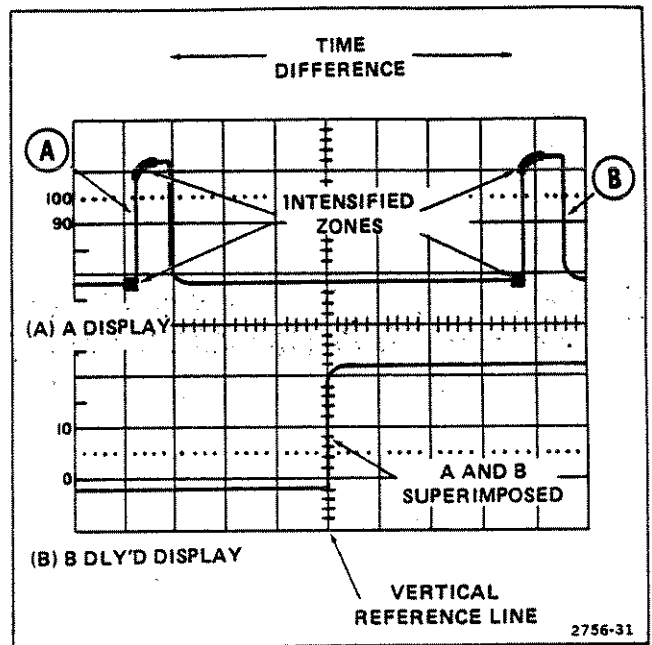

Figure 27. Time difference between repetitive pulses.
STARTS AFTER DELAY. For the most accurate measurement, set the B TIME/DIV switch to the fastest sweep that provides usable (visible) intensified zones. Use the DELAY TIME POSITION control to move the intensified zone to the first pulse (see Figure 27, A Sweep Display).
3. Observe the B Sweep display and adjust the DELAY TIME POSITION control to move the rising portion of the pulse to a vertical reference line (see Figure 27, B Sweep Display).
EXAMPLE: The first dial setting is 1.31 and the second dial setting is 8.81 with the A TIME/DIV switch set to $0.2 \mu\text{s}$ (see Figure 27).